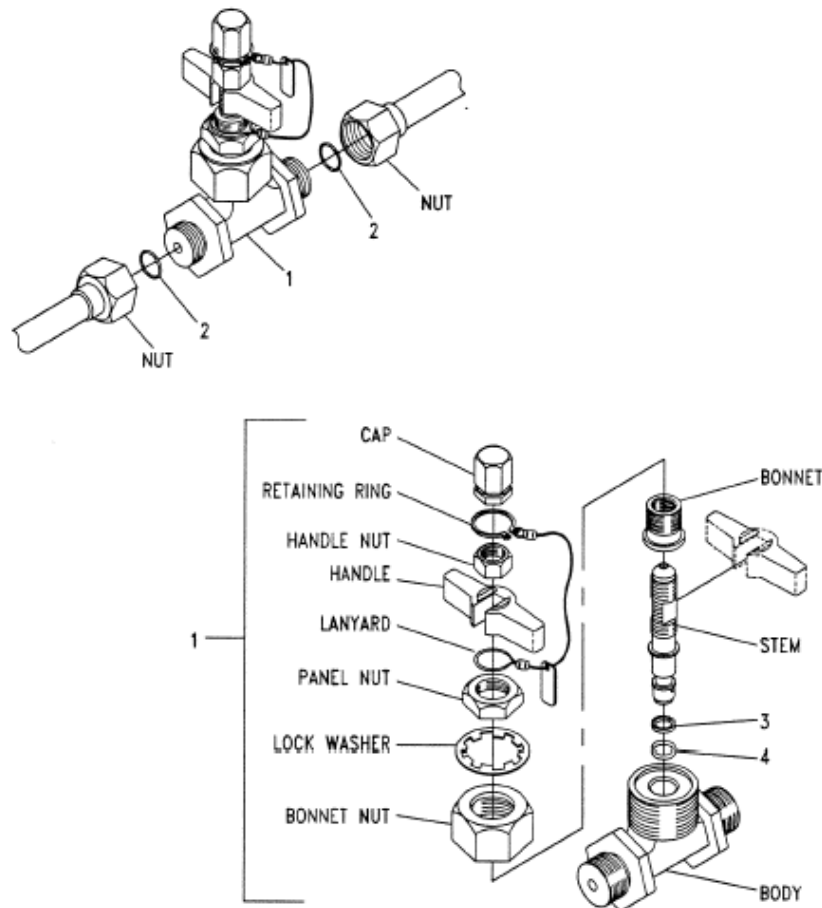

Figure 6-1. Gauge Isolation Needle Valve (PLC-10699)
- a. Remove tubing connector nuts that secure the valve in the system (see Figure 6-1).